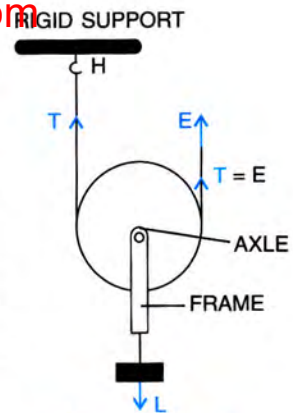

Fig. 3.22 Single movable pulley
Fig. 3.22 shows a single movable pulley suspended by passing an inextensible string of negligible mass around its grooved rim. The load L to be raised is suspended from its axle. One end of the string is tied to a hook H at a rigid support and the effort E is applied at its free end. The tension T acts on the string on both sides of the pulley as shown in Fig. 3.22.
In Fig. 3.22, if we neglect (1) the friction in the pulley bearings or at the axle, and (2) the weight of the pulley and string, the load L is balanced by the tension T in *two* segments of the string and the effort E balances the tension T at the free end, so